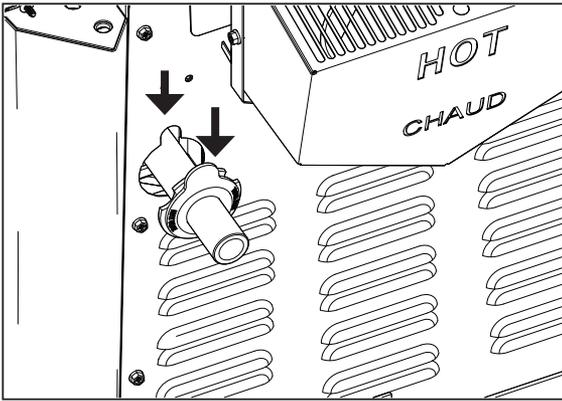

Figure 13. Line Up Tab with Gas Pressure Tap Port
3. Insert the new fuel type sealing grommet into gas inlet port (Figure 13).
4. Seat the grommet securely in the port so that the lip is smooth on both edges. Orient the grommet so that the tab lines up with the gas pressure tap port (Figure 13).